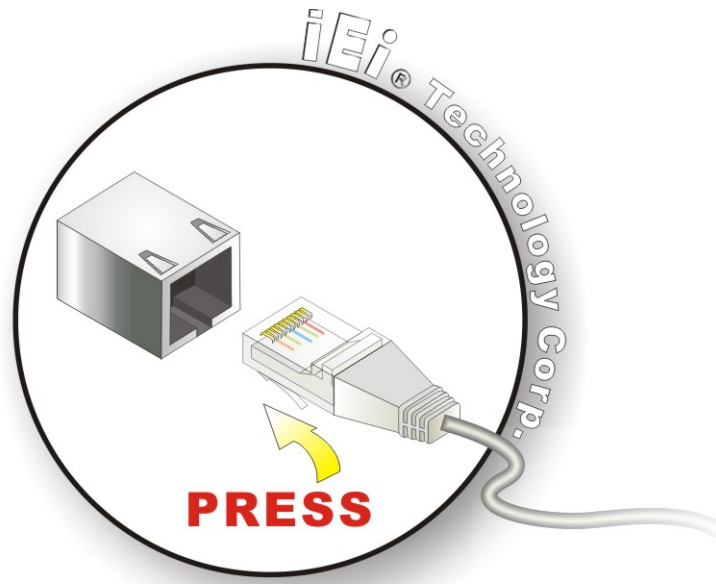

Figure 3-18: LAN Connection
Step 2: Align the connectors. Align the RJ-45 connector on the LAN cable with one of the RJ-45 connectors on the DRPC-100. See **Figure 3-18**.